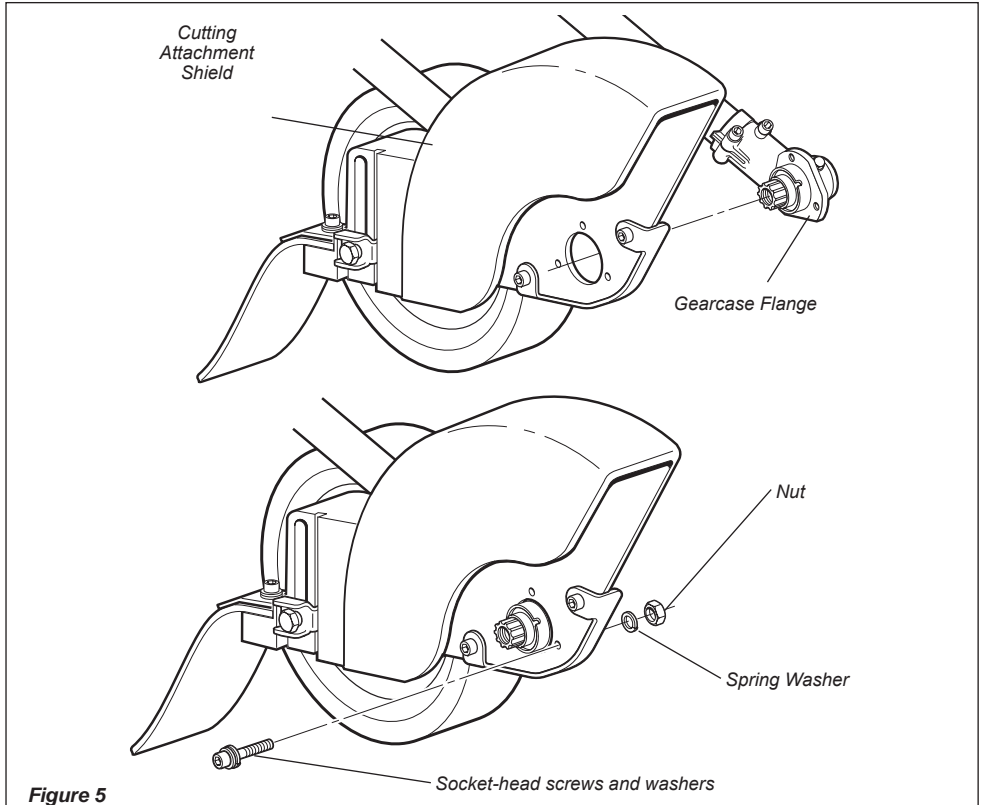

Figure 5
1. Remove the shaft bolt, bolt guard, holder A and holder B from the gearcase. See Figure 5.
2. Align the cutting attachment shield assembly with the gearcase as shown, and then fit the shield onto the matching flange on the gearcase. See Figure 5.